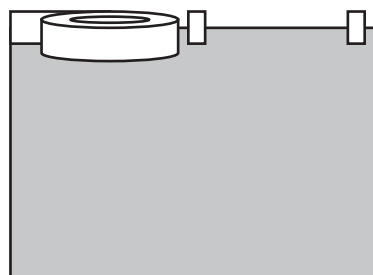

FIGURE 1
1. Position the graphic, using strips of Masking Tape to hold the graphic to the substrate, Then apply a strip of masking tape 2 to 3 inch wide, horizontally across the top of the graphic. See FIGURE 1.